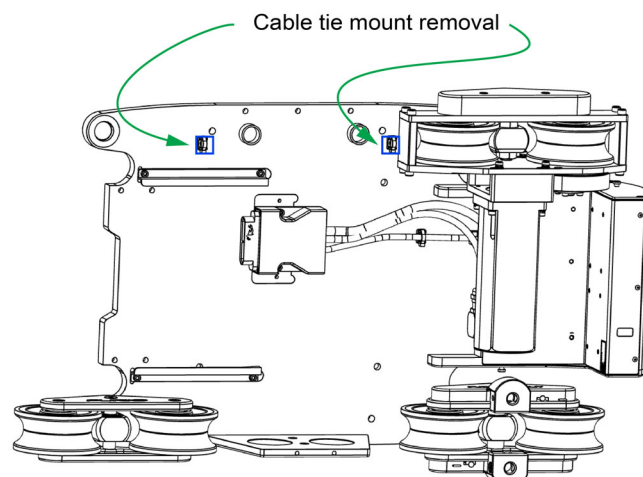

Figure 22 - Cable Tie Mounts on Dolly Base
1. Use the wire cutter to cut the tie wraps shown in **Figure 22**.